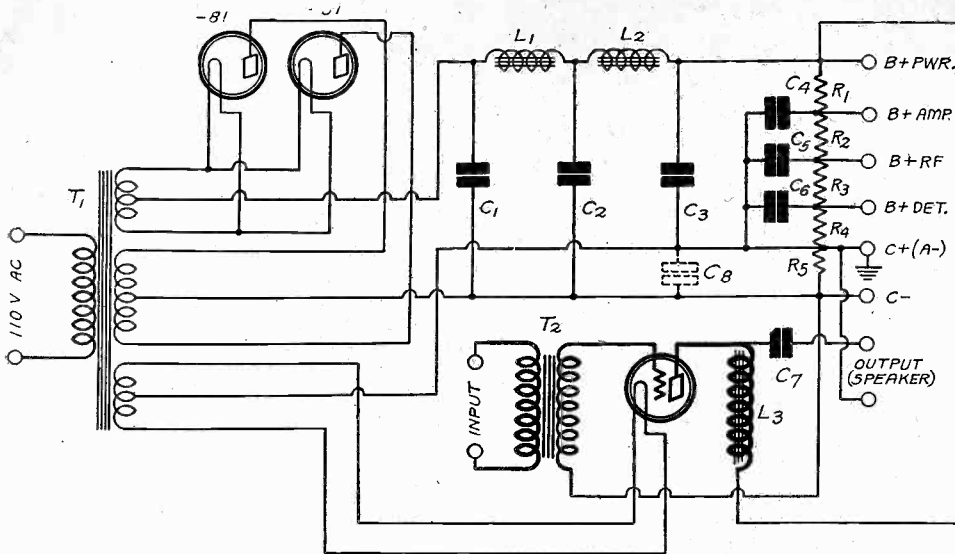

FIG. 731
(1)—See Fig. 731 for such a diagram.
Condensers used in high voltage circuits such as that in Fig. 731 above often break down in service. The break-down often occurs during warm weather and after prolonged periods of operation. This indicates that the temperature of the condensers has much to do with the life of them. An alternating current through a condenser causes much heating.
In selecting condensers for the high voltage circuit, and that includes C1 in Fig. 731, condensers of 1,000 volts guaranteed rating should be picked. Condenser break-down may result in a burnt-out rectifier tube as well. Condensers suggested are Tobe, Acme or Flechtheim, 1,000-volt rating.